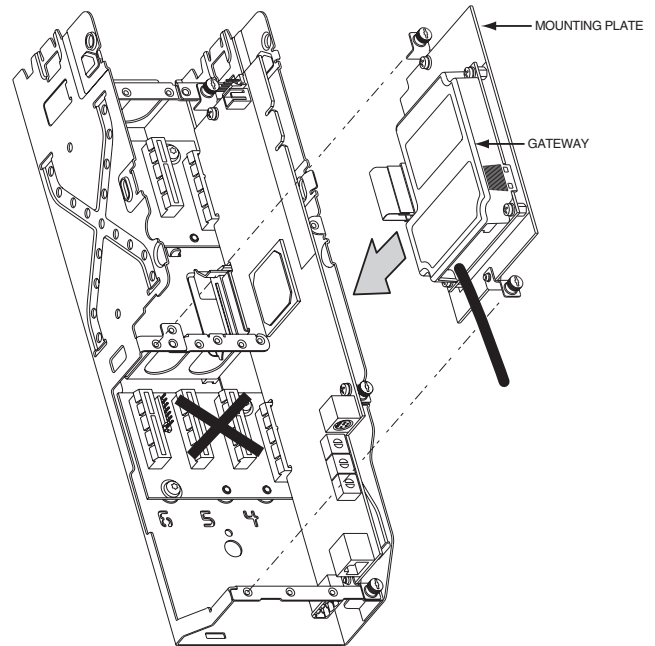

Fig. 24 — Mount COMM Card Plate to Drive
5. Mount the new COMM card and mounting plate and attach with the 2 screws removed in Step 4. See Fig. 24.